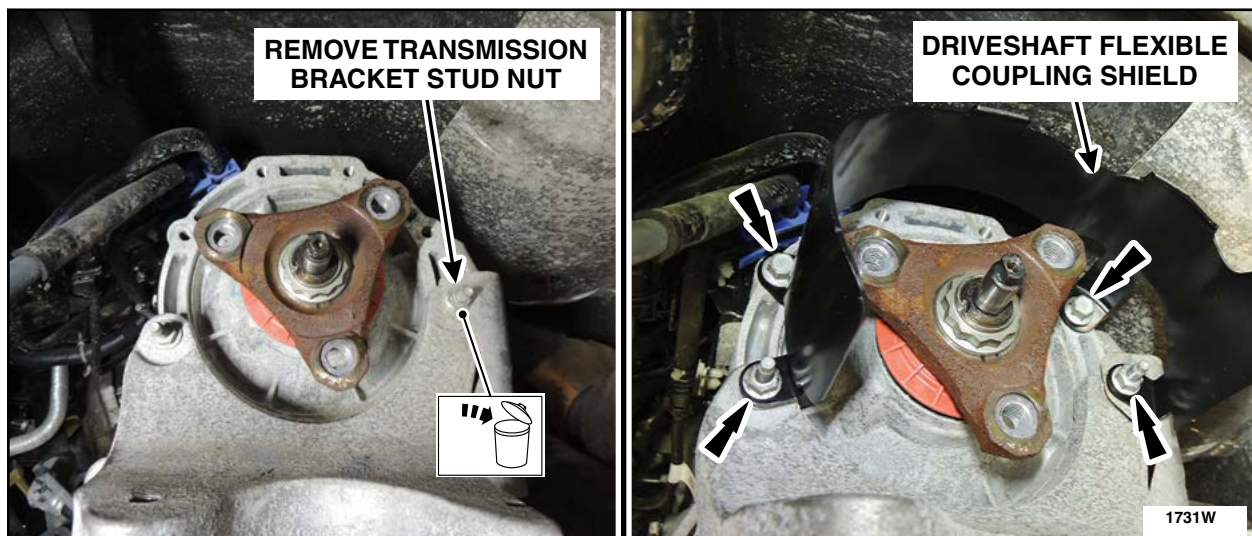

FIGURE 8
9. Install the driveshaft flexible coupling shield. See Figure 8.